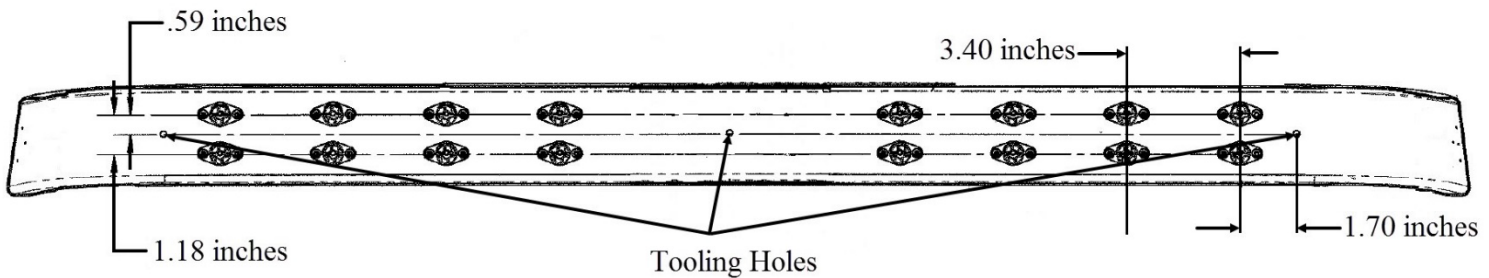

Figure 8-3
- C. Layout Camloc pilot hole locations in Channel Assembly 711020069 using dimensions as shown in Fig. 8-3. Drill (20) .128" dia. for Camloc pilot hole. Drill & countersink (32) .128" dia. into channel to match Camloc fastening holes. Install with MS20426AD4 rivets.